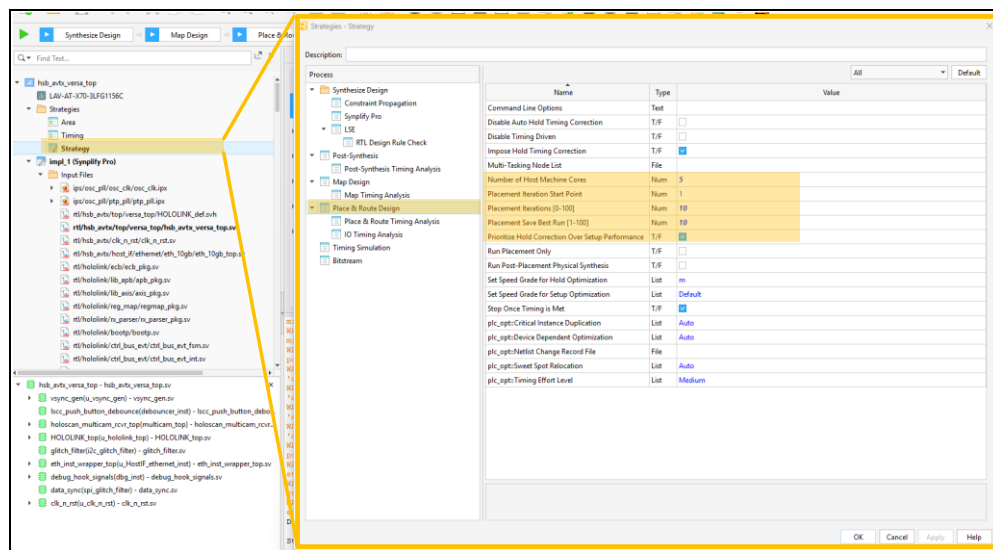

**Figure 5.5. Synthesis Design Strategy**
3. Modify the Synplify Pro® strategy details under **Synthesis Design > Synplify Pro**. Refer to Figure 5.5.